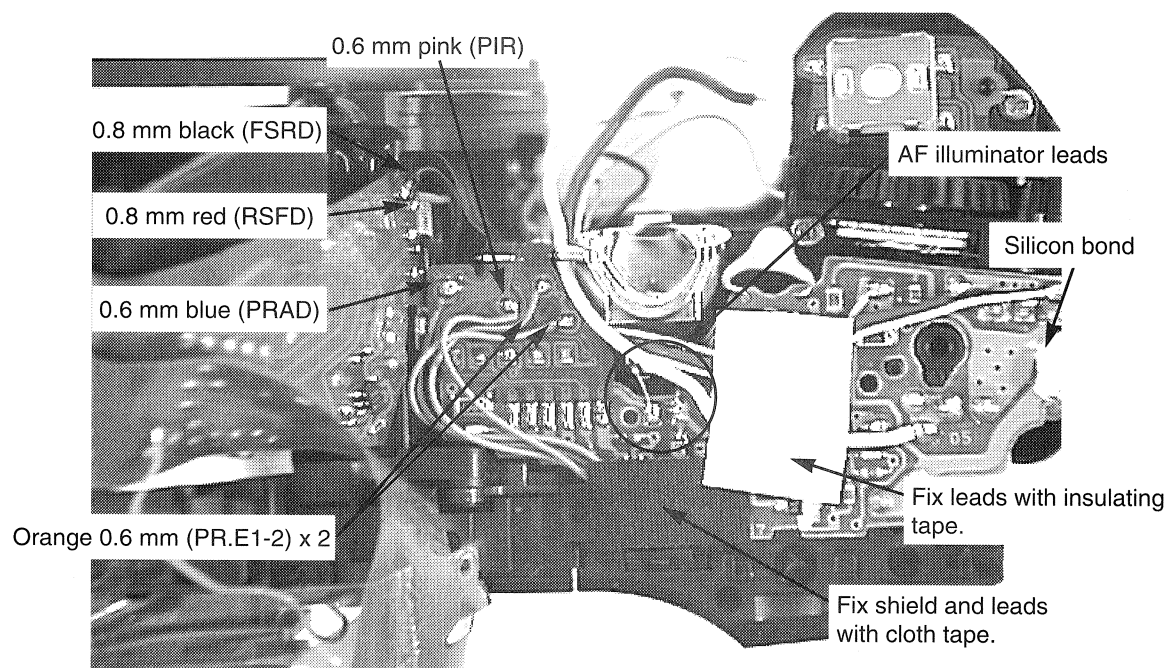

Fig. 3-19 AF Illuminator Unit Removal
6. AF illuminator unit (6) removal
- Disconnect the lead from the flash board. (Fig. 3-19)
7. Electronic dial unit (7) removal
8. Flash board (8) removal
- Remove the comb connector from the main flex. (Fig. 3-19)
- Remove the comb connectors from the shutter board and main flex. (Fig. 3-19)
9. Remove two motor leads. (Fig. 3-19)